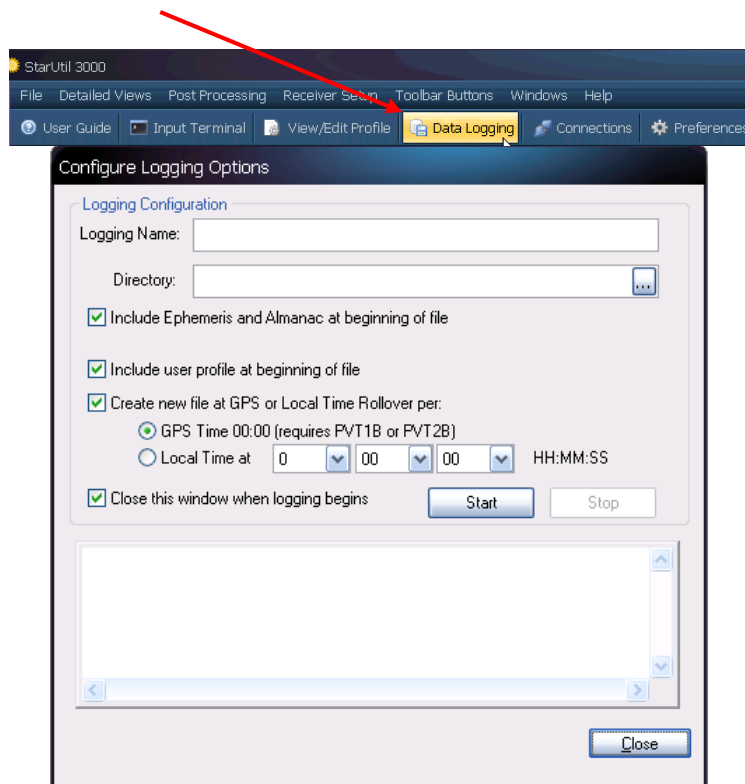

Figure 148: Configure Logging Options, Logging Configuration
- ✓ Click the *Data Logging* button to open the *Configure Logging Options* dialog box (see Figure 148).
Refer to Figure 148 for the options below:
3. Click  to open the *Configure Logging Options* dialog box (see Figure 148).